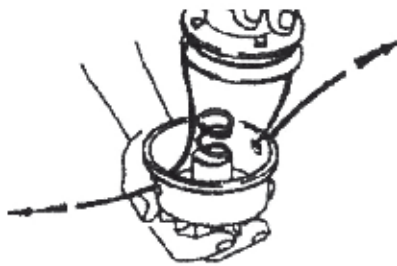
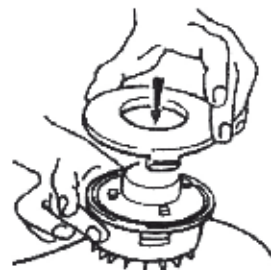

FIG. 6
FIG. 7
7. Insert the spring (Fig. 6), reassemble the spool and the spool holder in the string trimmer. To do this, push the head and turn it clockwise until it locks. (Fig. 7).